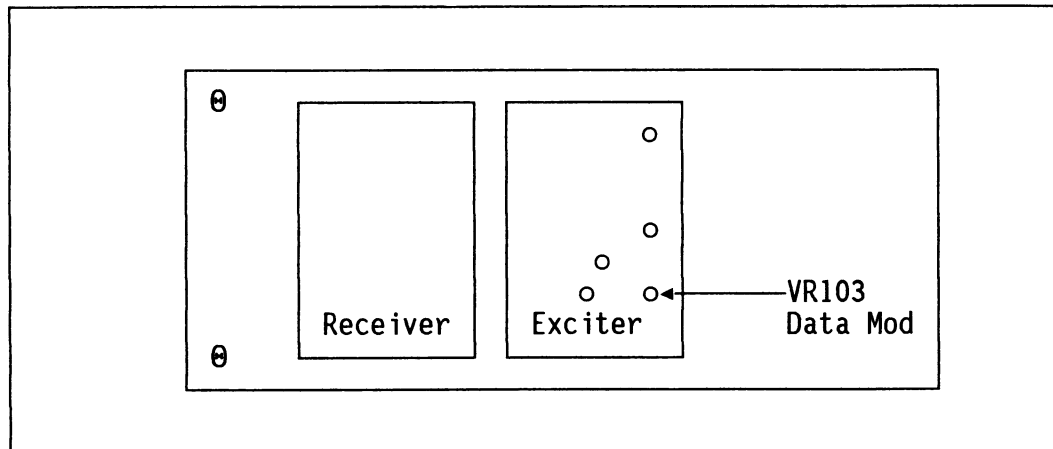

Figure 4-19. Uniden MRS804 Internal Sub-Chassis
- [] 7. Turn VR103 on the MRS804 exciter about 1/4 turn clockwise to get more adjustment range on the Zetron transmit data deviation. See Figure 4-19.